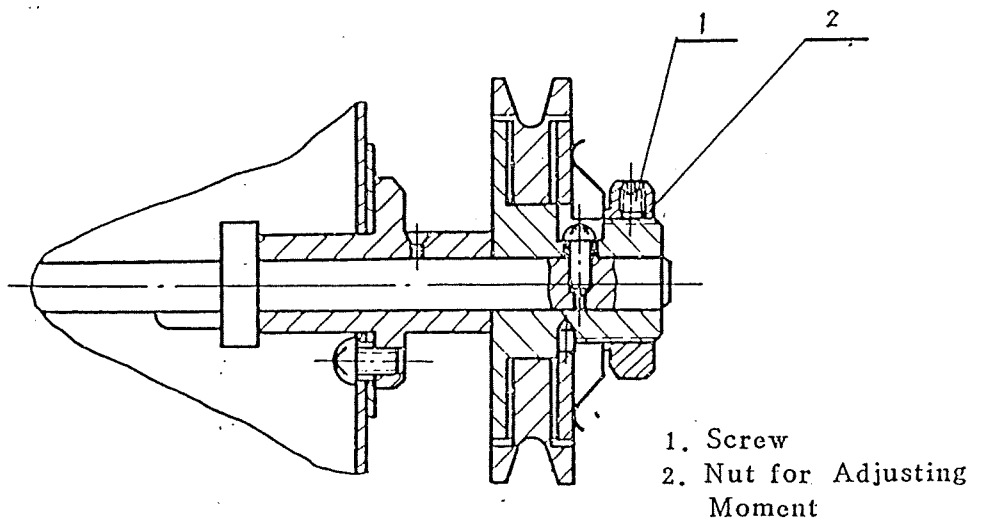

Fig. 14
The take-up system employed in this projector is a finely constant friction torque mechanism. See Fig. 14. The take-up tension can be adjusted by loosening screw(1) and turning the nut(2), in order to avoid the damage to film.